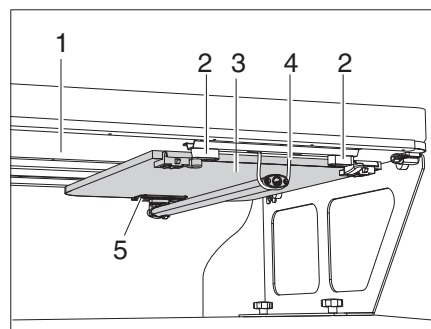

Fig. 36 Suspension table under the bed extension
The suspension table with telescopic leg forms part of the outdoor package and can compensate ground unevenness by adapting the support leg. The suspension table (Fig. 36,3) is located under the bed extension (Fig. 36,1).
- Turn the two clamping brackets (Fig. 36,2) by 90°.
- Hang out the rubber mount (Fig. 36,4) at the telescopic leg.
- Slide the suspension table under the bed extension until it stops (Fig. 36,5).
- Hang in the rubber mount (Fig. 36,4) at the telescopic leg.